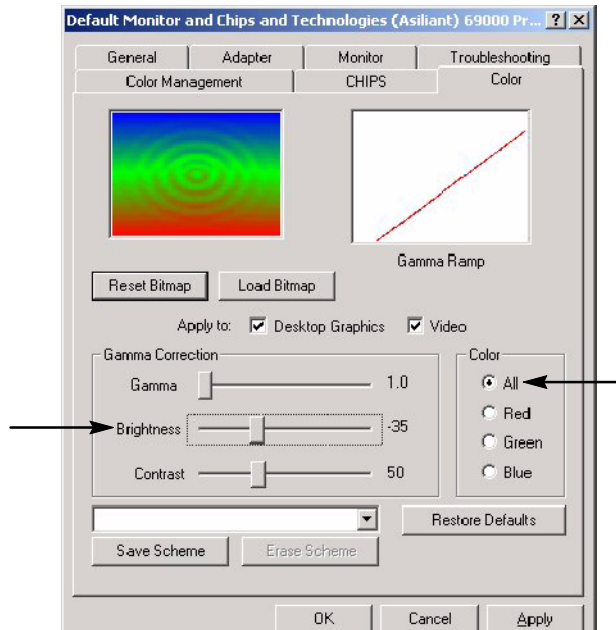

Figure 12: Brightness and button settings
6. Select the Desktop graphics and Video buttons. See Figure 12.
7. In the Color menu select All. See Figure 12.
8. Slide the brightness bar to -35. All. See Figure 12.